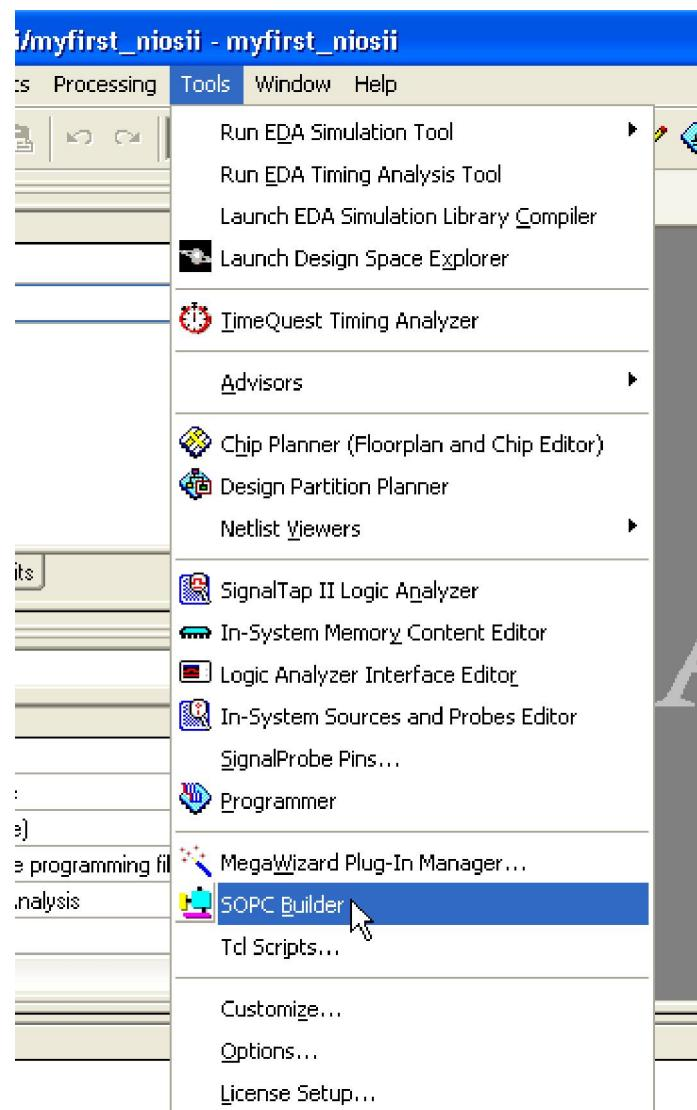
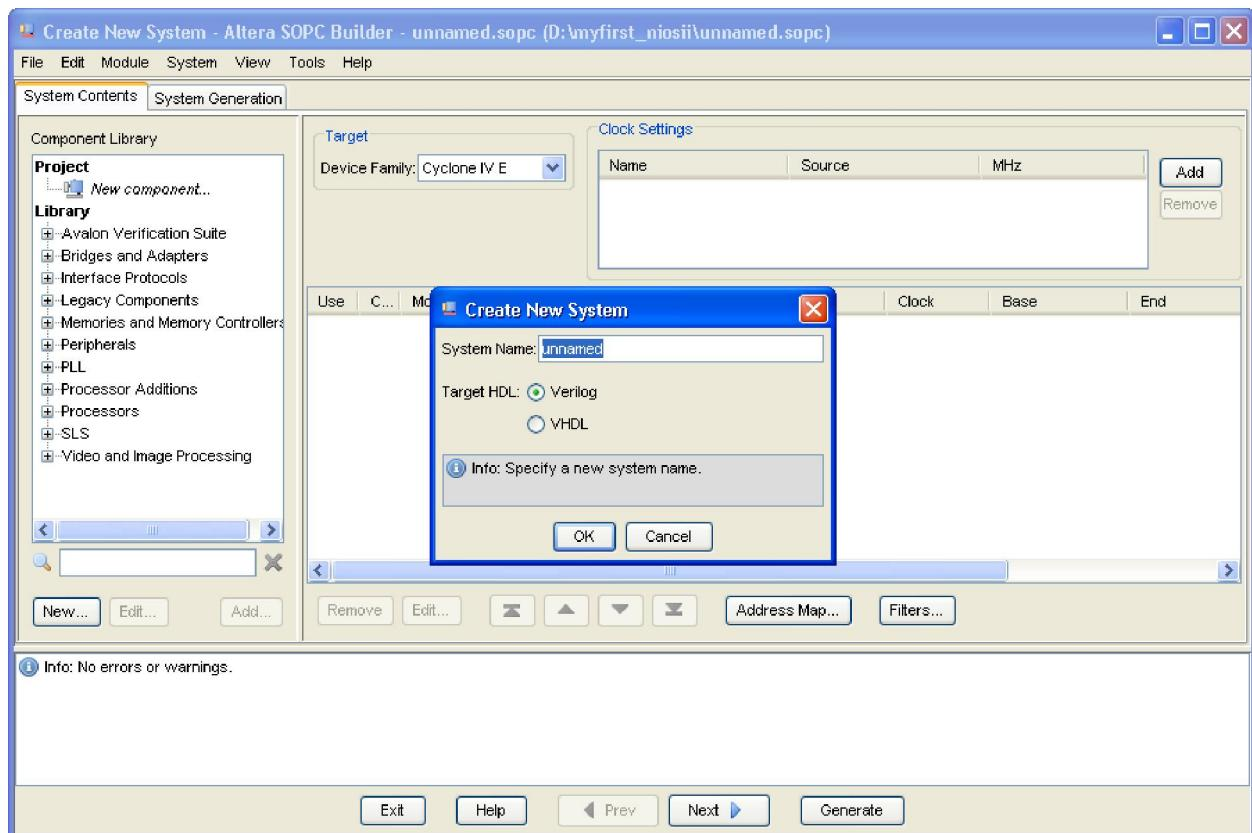

Figure 1-9 SOPC Builder Menu
Figure 1-10 Create New SOPC System [0]
5. Choose **Tools > SOPC Builder** to open new SOPC system wizard .See **Figure 1-9** and **Figure 1-10**.